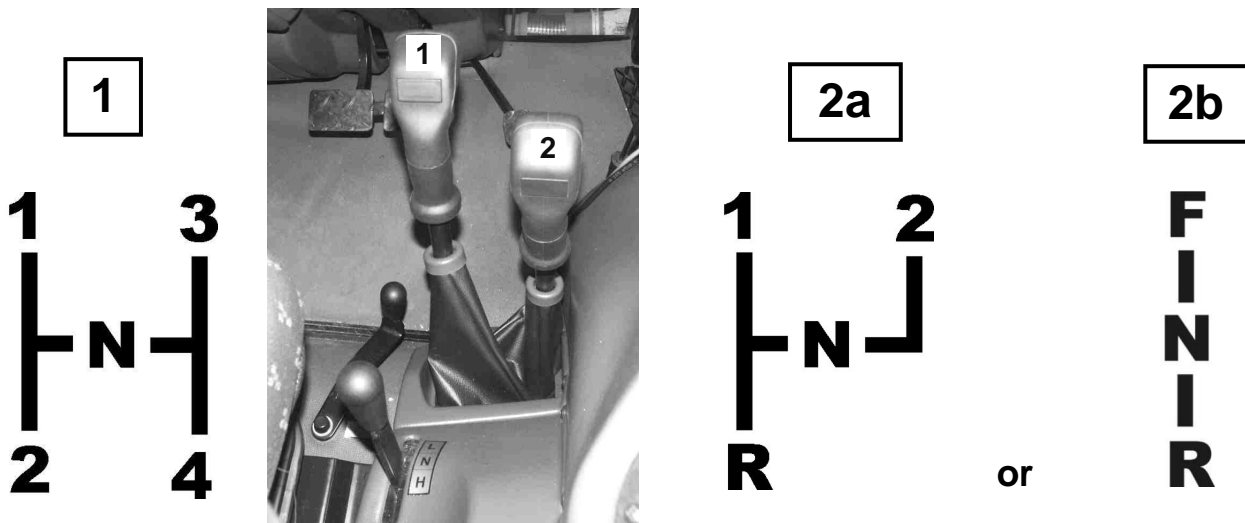

Figure 5-4. Gear lever of **PRONAR P5** type tractors
- ensure that lever 2 (Figure 5-4) controlling selection of gear group and changing gear 1 is in setting **N**. (look at gear box operation diagram on hand grip of lever).